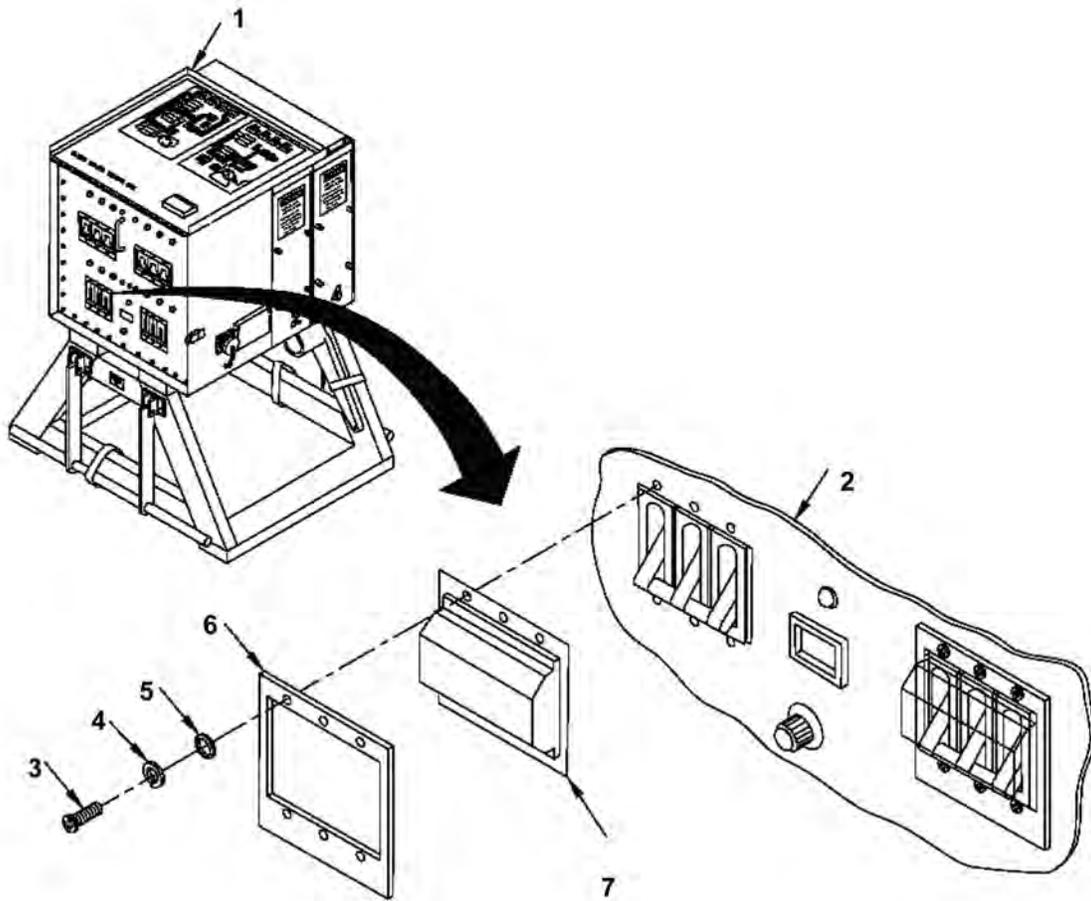

Figure 1. Protective Boot Circuit Breaker CB1 - CB4 .
5. Open circuit breaker panel access cover (Figure 1, Item 1), by lifting upward.
6. Position protective boot (Figure 1, Item 7) and boot bezel (Figure 1, Item 6) on circuit breaker panel (Figure 1, Item 2). Secure it by installing six flat washers (Figure 1, Item 5), six lock washers (Figure 1, Item 4) and six screws (Figure 1, Item 3).
7. Lower circuit breaker access cover (Figure 1, Item 1) and secure it.